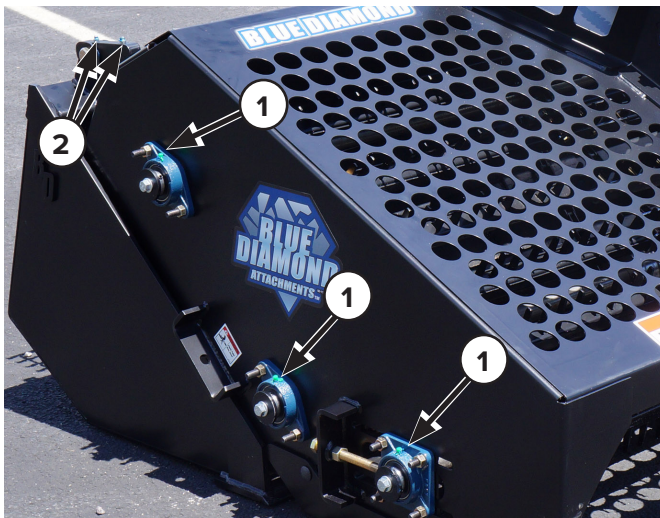

Figure 3
Every eight (8) hours of operation, grease the bearings [Figure 3, Item 1] (both sides) and the hinges [Item 2] (both sides).